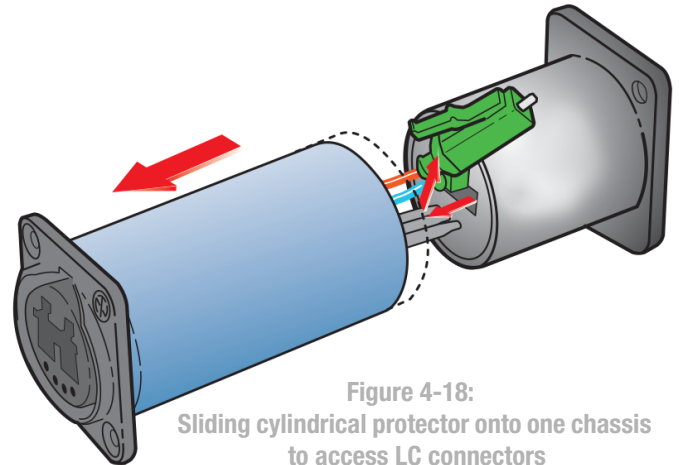

Figure 4-18:
- Step 4. Carefully slide the cylindrical protector over one chassis, exposing the LC connectors from the other chassis, **(See Figure 4-18 on next page)**